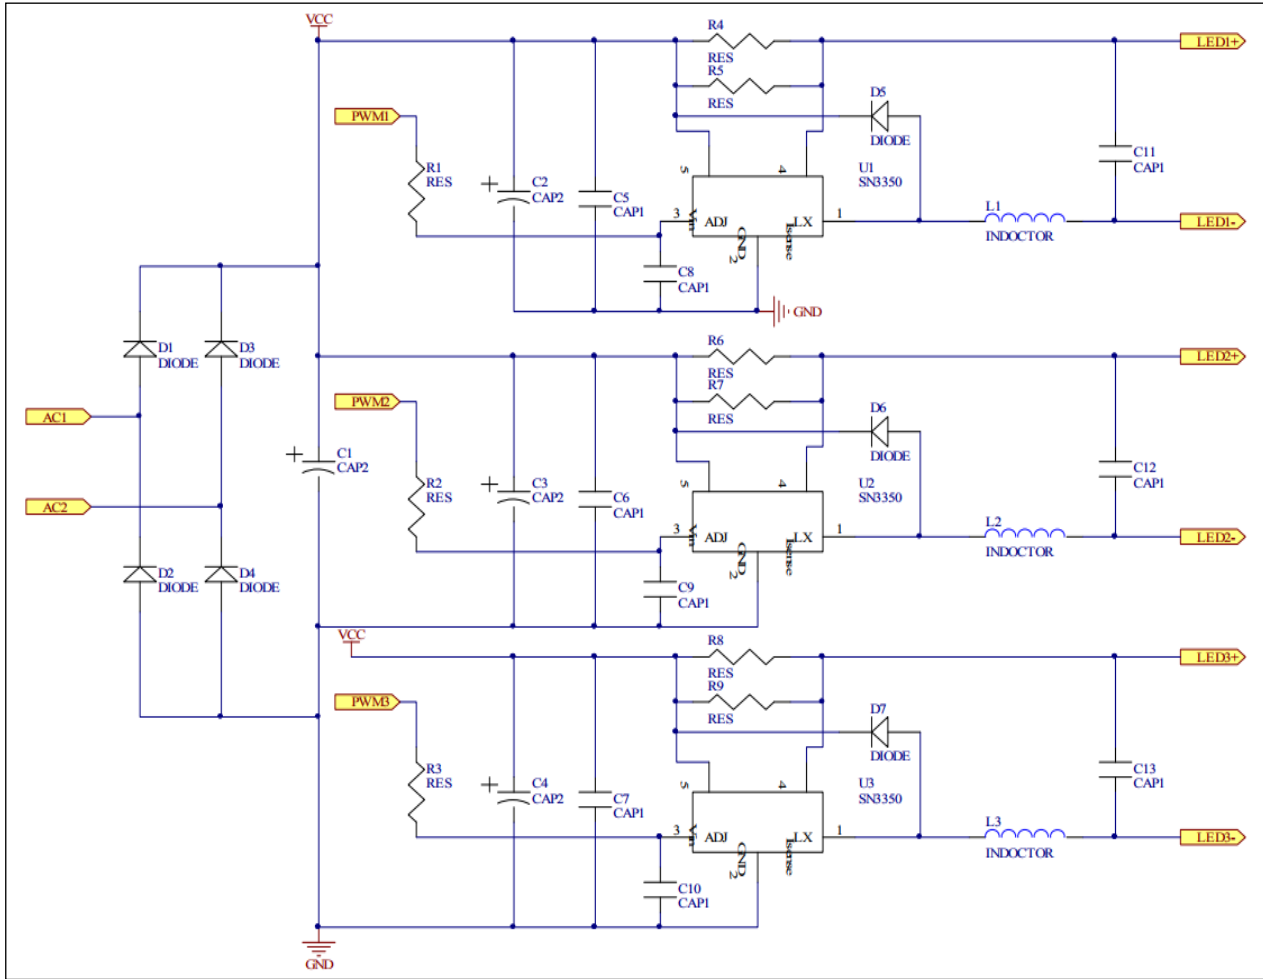

Figure 3: IS31LT3350 3CH Application Schematic
*Bill of Materials, refers to Figure 3 above.*